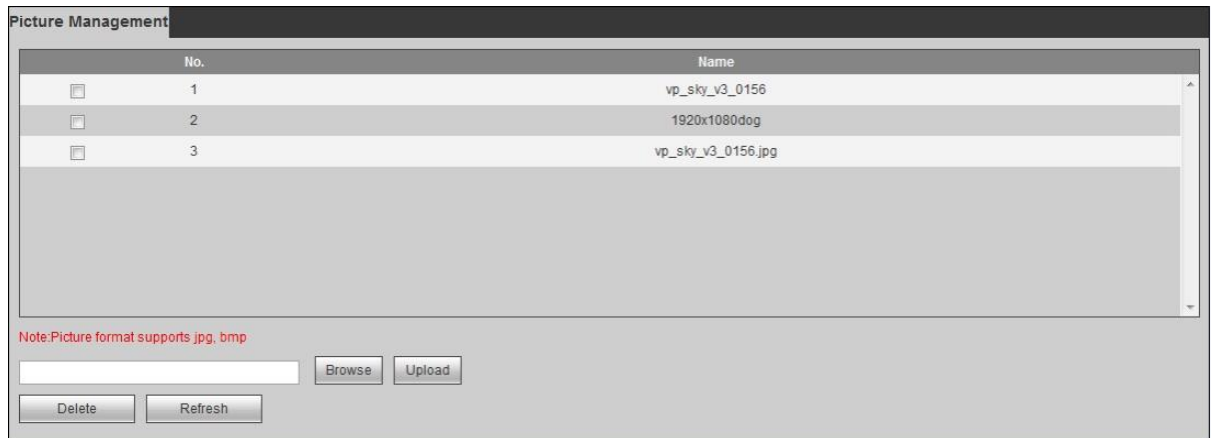

Figure 4-39
Step 1 Select “Setup> System Config> Picture Management”. The system displays Figure 4-39.